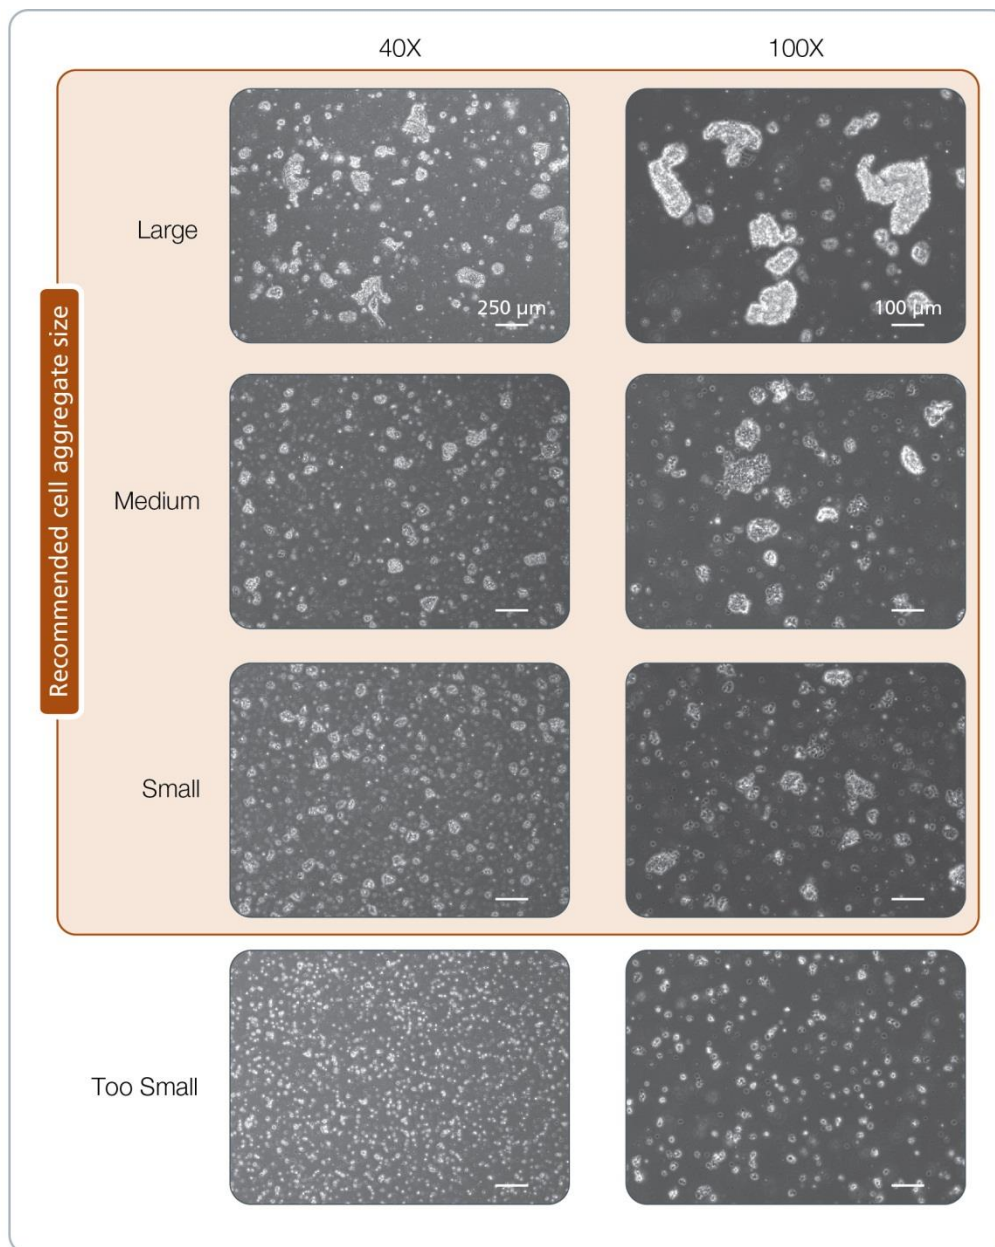

Figure 12. Acceptable Size Range for Cell Aggregates at the Time of Plating
*Number can be adjusted to obtain desired cell aggregate size (section 6.1). Refer to Figure 12 for examples of appropriate cell aggregate sizes, and adjust procedure as necessary to achieve desired results.
Culturing human ES and iPS cells in TeSR™-E8™ allows some flexibility in the passaging schedule, as cultures can be passaged between 4 and 7 days after plating in TeSR™-E8™. The next time the cells are ready for passaging depends on the size and density of the plated cell aggregates. For example, if large cell aggregates are plated at a high density, the next passaging time will most likely occur on day 4 or 5, whereas if small cell aggregates are plated at a low density, the next passaging will most likely occur on day 6 or 7 (Table 4). For representative images of large and small cell aggregates, see Figure 12. Regardless of the plating density and cell aggregate size used, the majority of colonies should be densely packed and multi-layered in the center when ready for passage.
*For representative images see Figure 12.
At the time of plating, the desired cell aggregate size can be obtained by adjusting the number of times the cell aggregate suspension is pipetted up and down (Table 3). Refer to Figure 12 for a recommended range of cell aggregate sizes. Do not generate single cells.